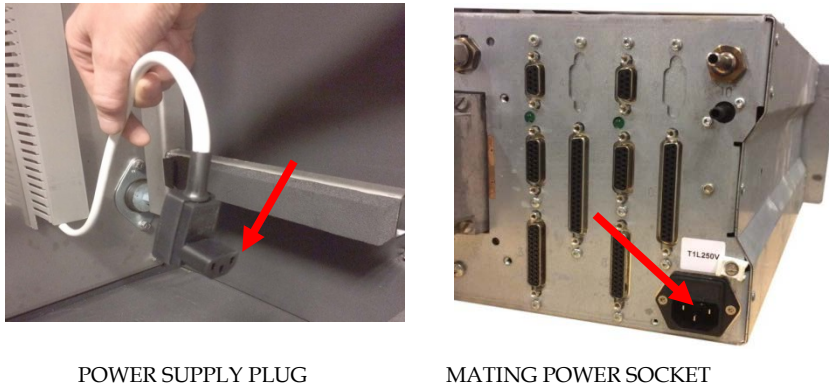

Figure 36 Connect analyser module to power
21) Ensure that the internal signal cables are properly fastened to the Analyser Module. Please note the colour marking of these cables. Refer to Figure 36.